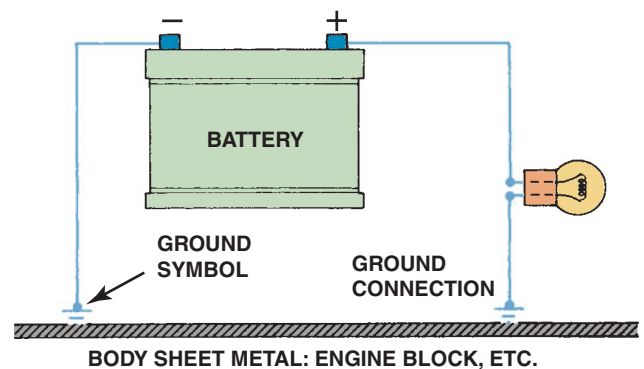

FIGURE 4-2 The return path back to the battery can be any electrical conductor, such as a copper wire or the metal frame or body of the vehicle.
5. A **return path (ground)** for the electrical current from the load back to the power source so that there is a *complete* circuit (This return, or ground, path is usually the metal body, frame, ground wires, and engine block of the vehicle. ● SEE FIGURE 4-2.)